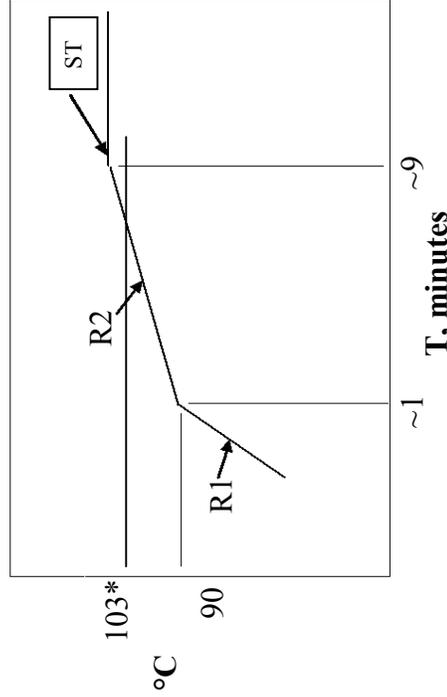

Figure 1, UniBlate Default Algorithm
- RF set temperature defaults to 103°C. Modifying the set temperature will offset the endpoint of the first ramp shown in Figure 1 by the number of degrees different from the default setting, e.g. a 100°C set point will drop the endpoint of the first ramp from 88°C to 87°C.
- Generator power output curves can be found in The Model 1500X Generator User Guide and Service Manual P/N 160-102929, Figures 1 through 4.